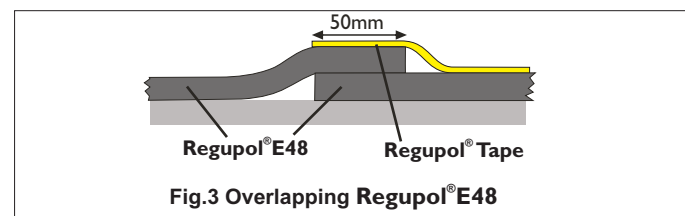

Fig.3 Overlapping Regupol® E48
4. **Overlap all joints (both along and across the roll)** by at least 50mm and tape all joints using **Regupol® Tape** only (see Fig.3) .